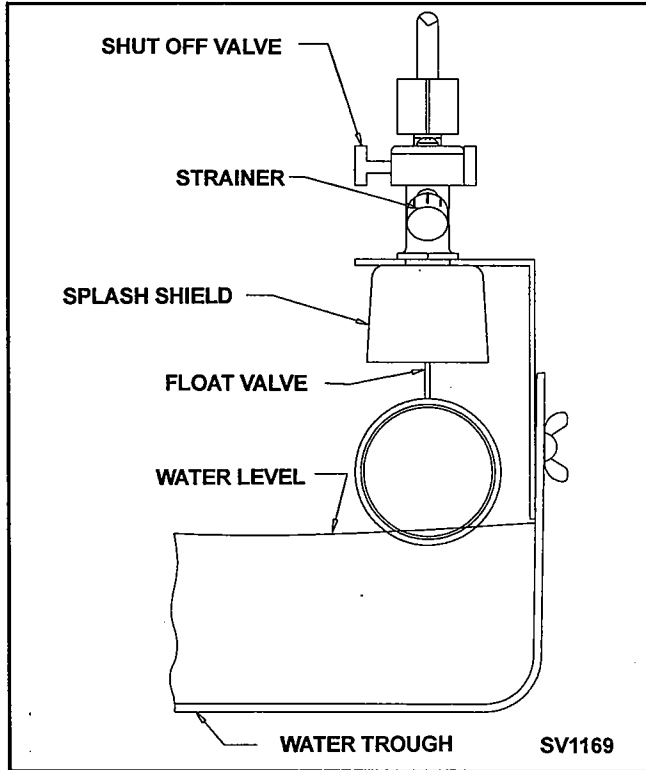

FIGURE 12. FLOAT VALVE REMOVAL
Remove Float Valve (Figure 12)
1. Turn on the water to the ice machine at the water service valve, and ensure the float valve is open, Figure 12, page 9.
6. Shut off the water at the float valve, Figure 12, page 9.